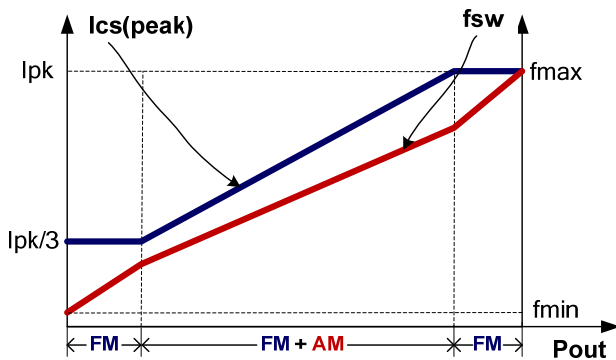

Fig.4
To meet the tight requirement of averaged system efficiency and no load power consumption, a hybrid of frequency modulation (FM) and amplitude modulation (AM) is adopted in ATC9583 which is shown in the Fig 4.